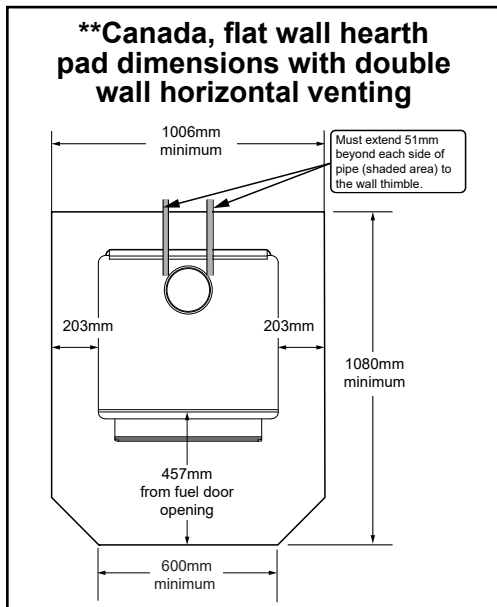

Figure 9.2 - **These dimensions will vary depending installation.
In Canada, similar floor protection must be provided 18 inches (457mm) in front and 8 inches (203mm) from the sides and rear of the appliance unless the hearth pad is placed against the wall (**Figure 9.2**). Then the clearance may be reduced using double wall pipe and the Clearance to Combustibles table listed.
***Exception:** Non-combustible floor protector must extend beneath the flue pipe when installed with horizontal venting and extend 2 inches (51mm) beyond each side (**Figure 9.2**).